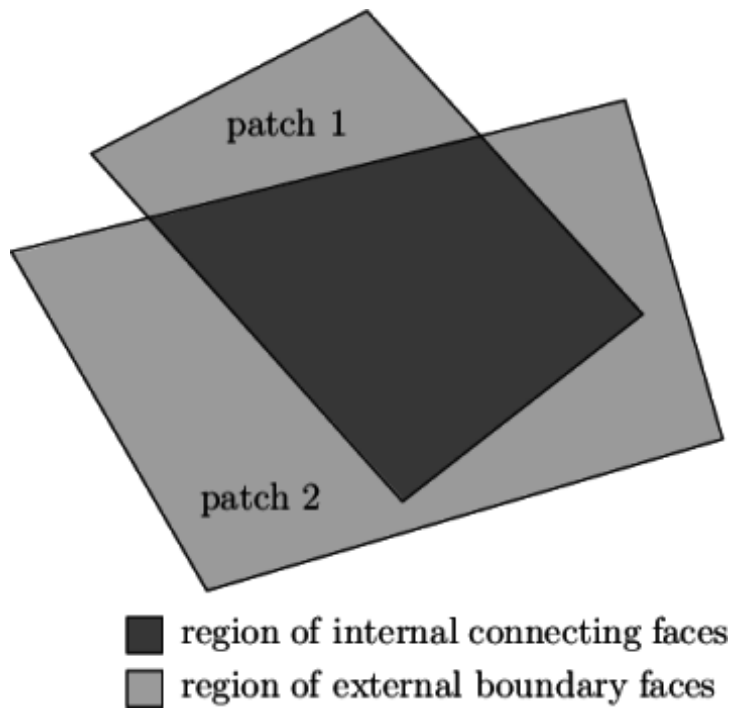

Figure 5.7: Merging overlapping patches
- if patches overlap as shown in Figure 5.7, each face that does not merge remains as an external face of the original patch, on which boundary conditions must then be applied;